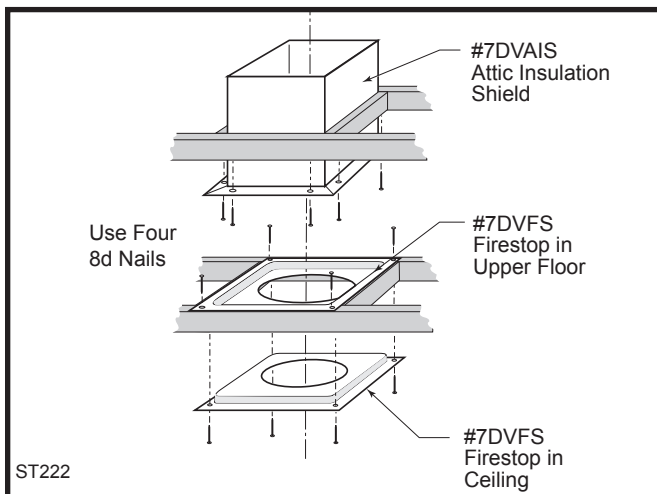

Fig. 32 Install firestops and attic insulation shield.
6. Install firestop(s) #7DVFS and Attic Insulation Shield #7DVAIS as needed. (Fig. 32) If there is a room above ceiling level, a firestop must be installed on both the bottom and top sides of the ceiling joists. If an attic is above ceiling level, an attic insulation shield must be installed.